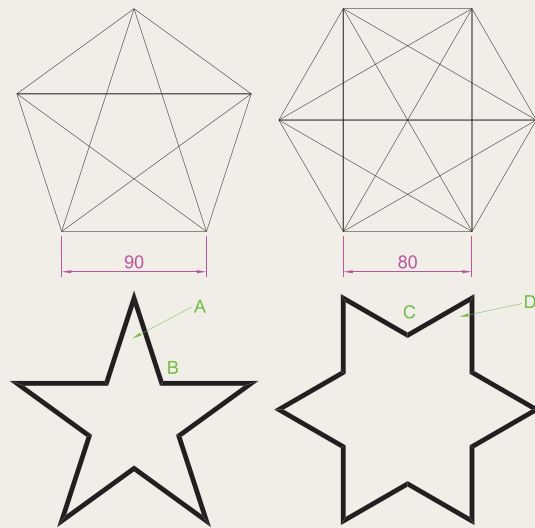

Fig. 6.30 Exercise 4
4. Construct two polygons as in Fig. 6.30 and add all diagonals. Set osnaps **endpoint**
and **intersection** and using the lines as in Fig. 6.30 construct the stars as shown using a polyline of width = 3. Next erase